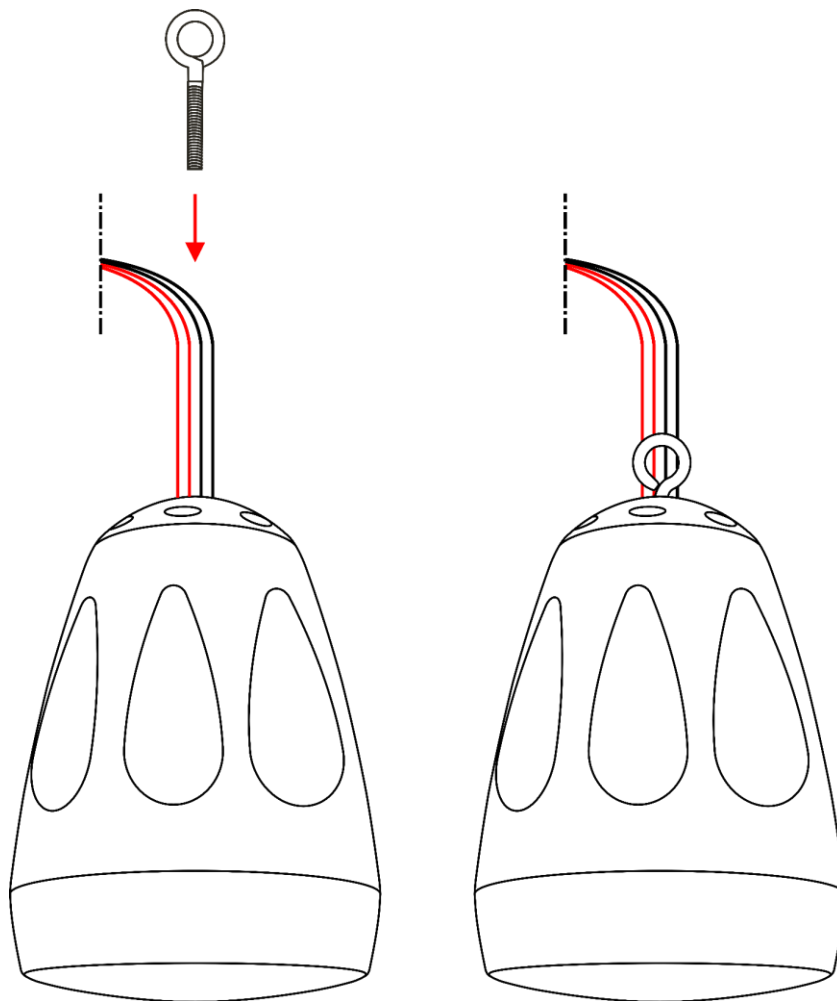

Fig. 10
- 05) Insert the **suspension eyelet (01)** into the **suspension eyelet threaded opening (05)** and tighten it (Fig. 10).